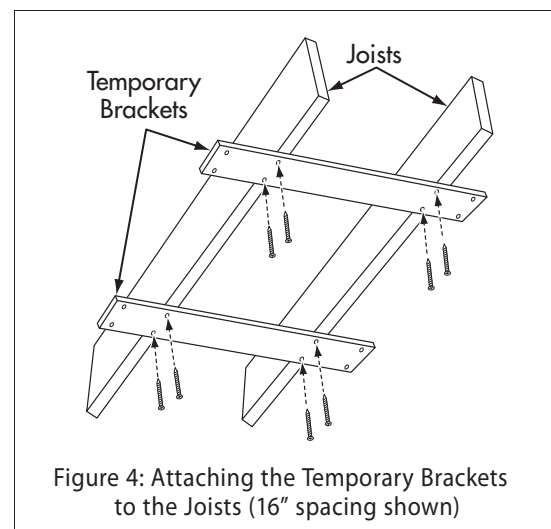

Figure 4: Attaching the Temporary Brackets to the Joists (16" spacing shown)
4. Screw the two Temporary Installation Brackets across the underside of the joist bay at the locations indicated on the Drilling Template (see Figure 4).